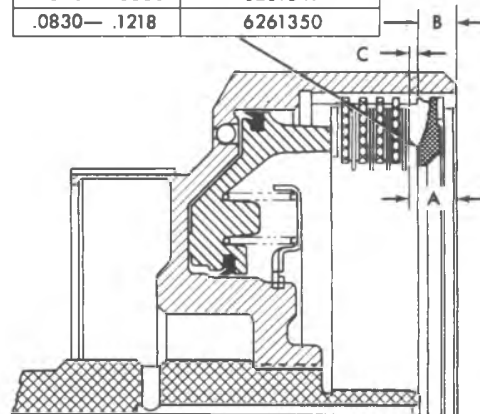

Figure 7A5-68 Determining Selective Fit for Forward Clutch Pressure Plate
6. Install forward clutch pressure plate (selective fit and retaining ring). Using chart (Figure 7A5-68) select the correct pressure plate (dimension C), measure distance from the top of clutch pack to the top of clutch drum (dimension A). Measure distance from the lower edge of the notch on the inner surface of the drum to the end of the drum (dimension B). Subtract B from A to get dimension C/